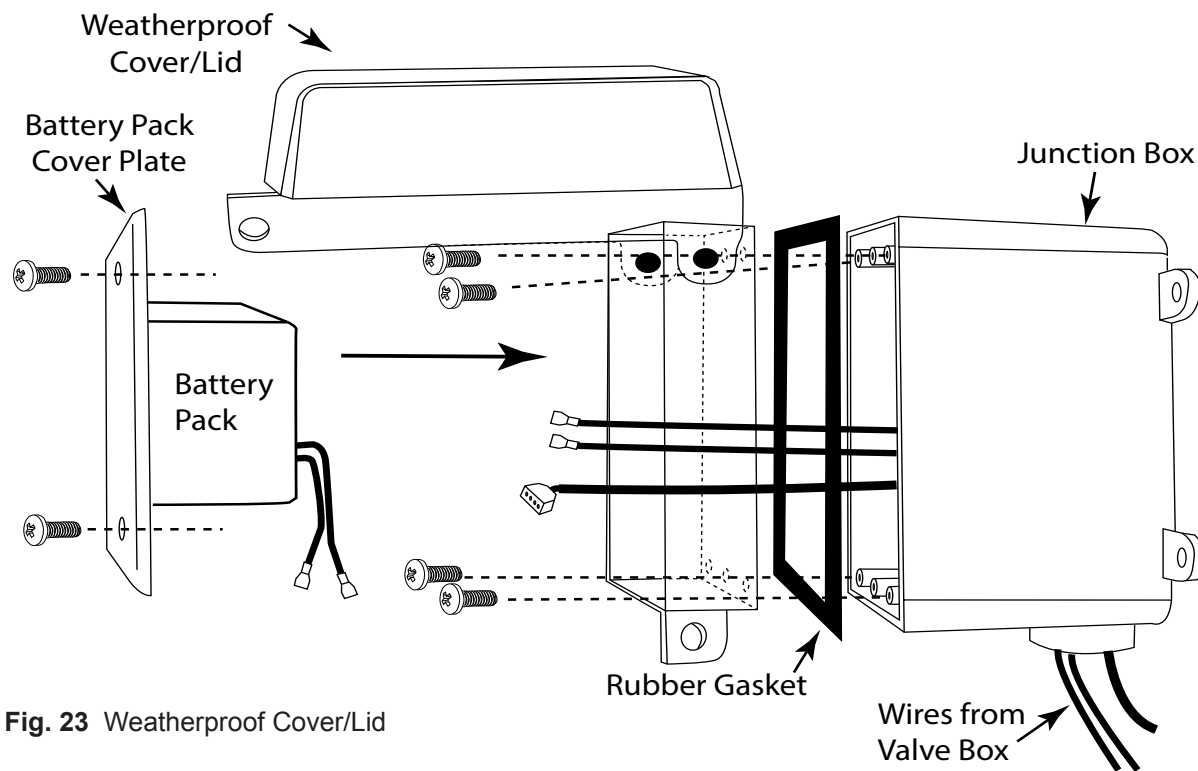

Fig. 23 Weatherproof Cover/Lid
2. Install the junction box and secure into position. **Note:** Junction box should be flush with the finish materials to ensure weatherproof cover/lid has room (clearance) to open. See Fig. 23.
3. The fire pit has 12-feet of wiring outside of the valve box underneath the burner pan. One end of the wiring has a 4-pin connector. The others are (2) two individual wires (one black and one red) with $\frac{1}{4}$ " female connectors.
4. Feed the wire ends into the junction box and out the front (approximately 4-6 inches) to connect to battery pack (See wiring diagram on page 27, Fig. 29 and Fig. 23).